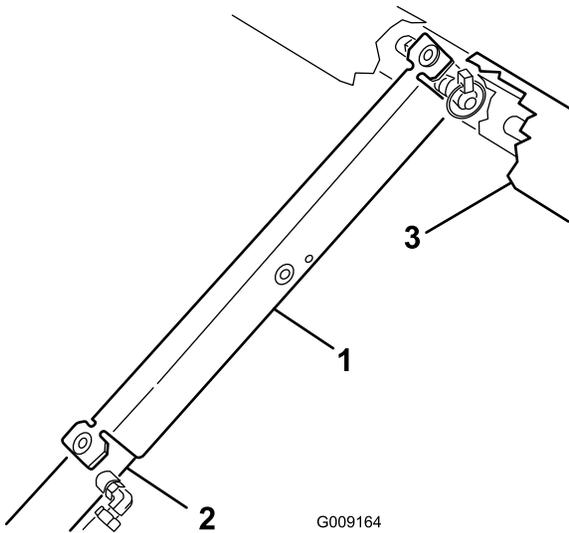

Figure 41
3. Push the bed support onto the cylinder rod, making sure that the support end tabs rest on the end of cylinder barrel and on the cylinder rod end (Figure 41).